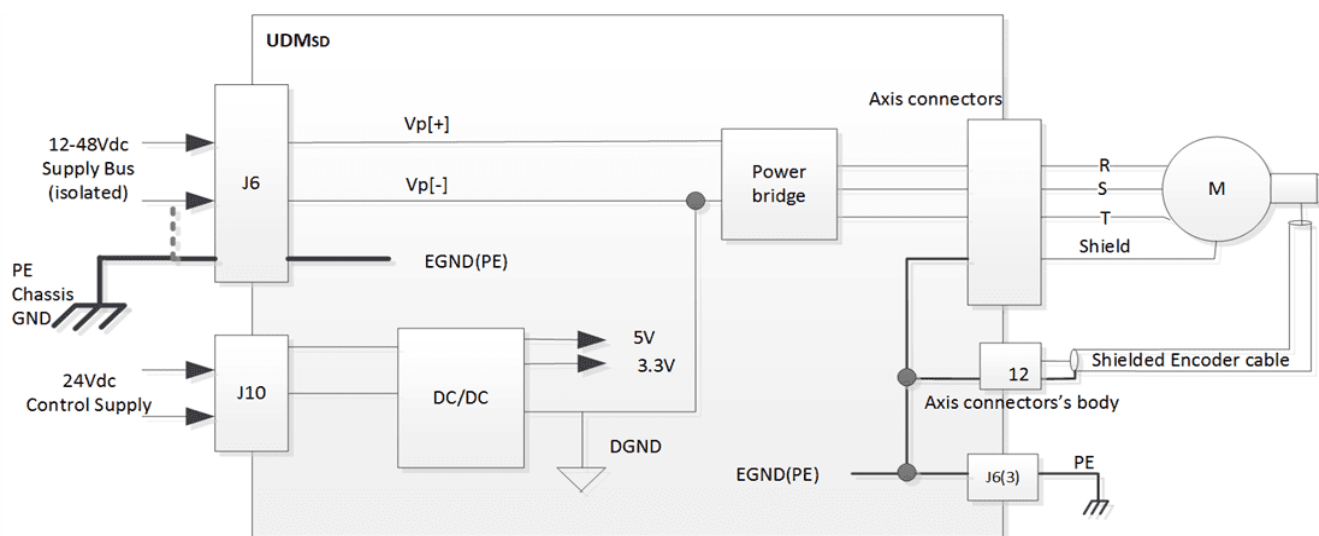

Figure 18-1. Grounding and Shielding
Figure 18-1 below depicts the recommended scheme for shielding and motor cable connections.
The digital ground (DGND) is shortened internally to Vp[-] line. In order to reduce system noise, the user may elect to connect this common signal of Vp[-] and DGND to the EGND(PE) externally, by shortening pins 2 and 3 in the J6 connector, as depicted in Figure 18-1 below by the dashed line. It should be noted that for safety standardization testing mandate to have a separation between these signals.